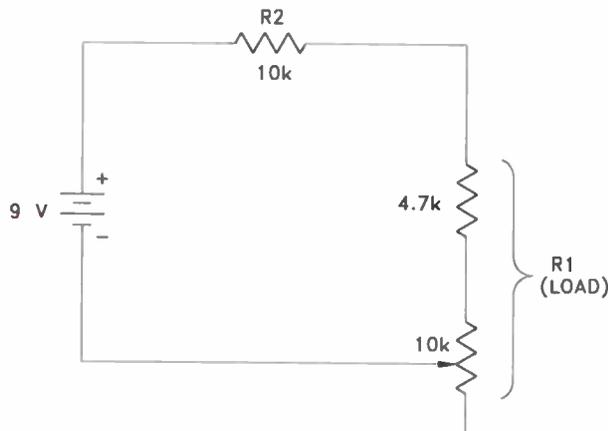

Figure 5-3. A schematic of the circuit for Step 2.
**Step 3.** Remove the 1k resistor as shown in Figure 5-3, on the next page. The load is still made up of the combination of the 4.7k resistor and part of the potentiometer. Adjust the potentiometer fully counterclockwise. Note the voltage reading and record it as the Voltage with Minimum Load for Step 3 in Table 5-1.